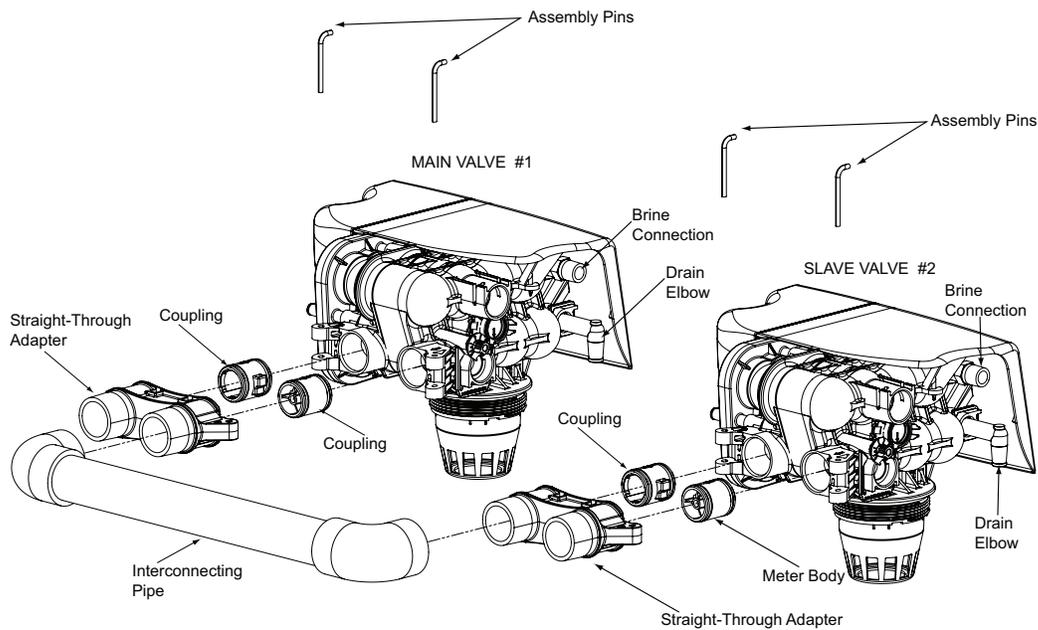

Figure 13. Straight-Through Adapter assembly.
Refer to Figure 13 and the instructions below to connect the meter, straight-through adapter, and interconnecting pipe.
2. The straight-through adapter connects directly to the control valve with the meter and coupling and two assembly pins. Lubricate all O-rings on the couplings/meter with silicone lubricant. See Figure 13.